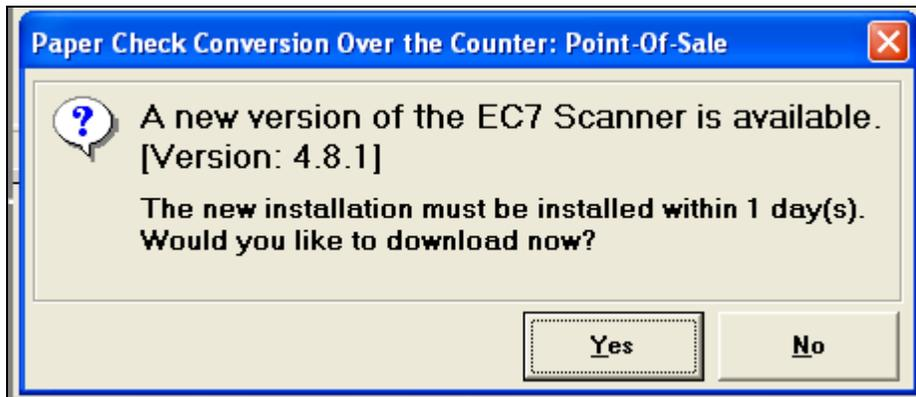

Figure 6.10.8
3. The New Version window opens (Figure 6.10.8).